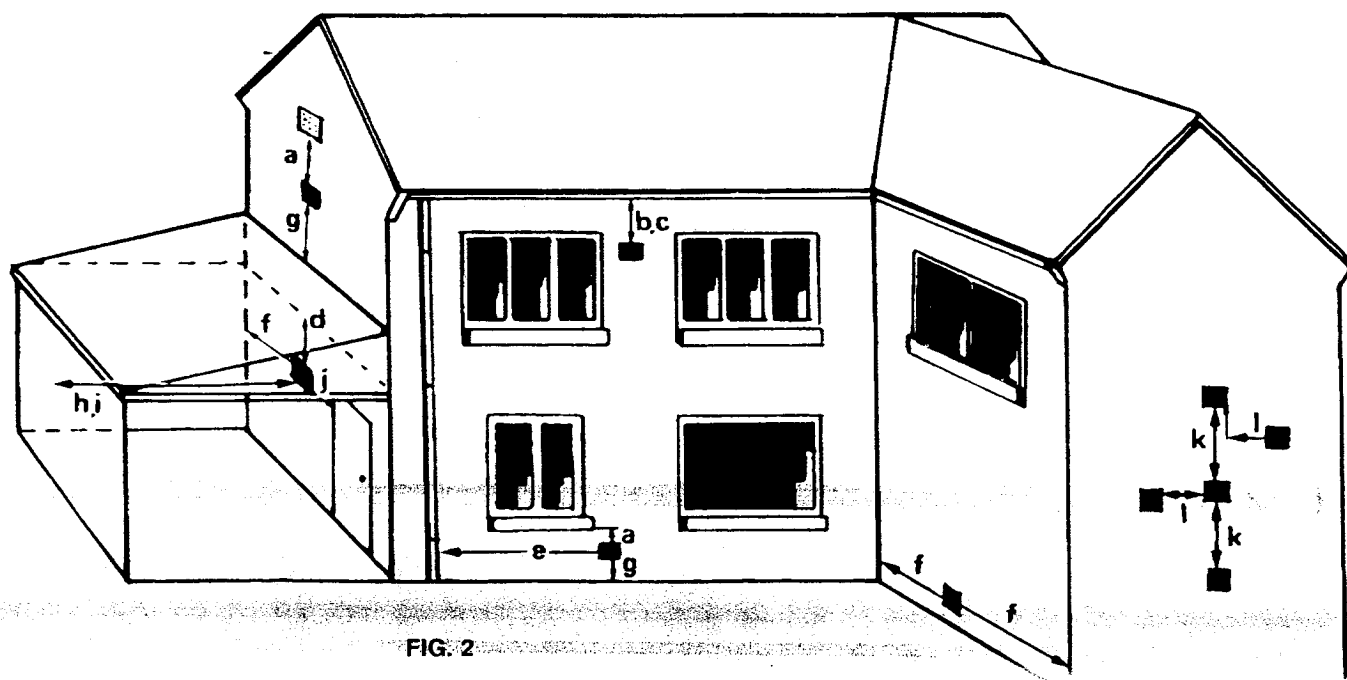

FIG. 2
TERMINAL POSITION – See Fig. 2
- Decide the most suitable position for the boiler, taking into account the information given previously, and paying particular attention to the siting of the balanced flue terminal on the outside wall of the building. See Fig. 2 & 5.